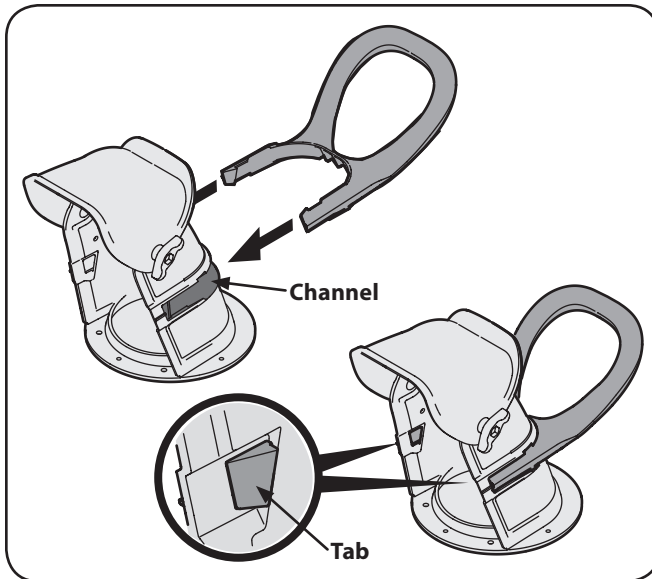

Figure 3-3
1. Place the chute handle on the lower chute as shown in Fig. 3-3. Be certain that the handle is aligned in the channel on the chute and the tabs snap into place.